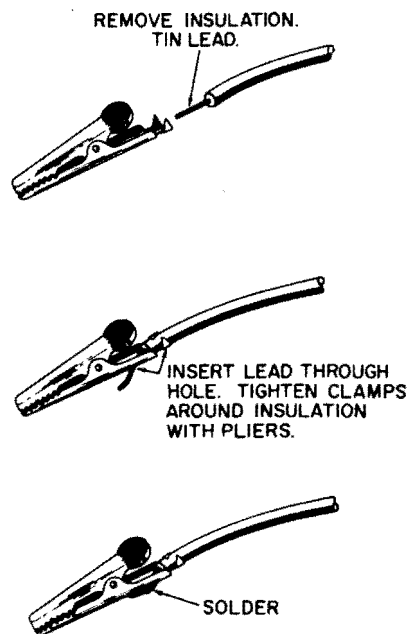

FIGURE 13
- (L) 107. Connect one end of the short length of black, heavy-wall, stranded hook-up wire to E 4 (Solder). Pass other end of this wire through grommet F.
- (✓) 111. Solder the four small alligator clips to the ends of the four wires as shown in Figure 13. Allow clips to cool, then slip an insulating sleeve over each clip.